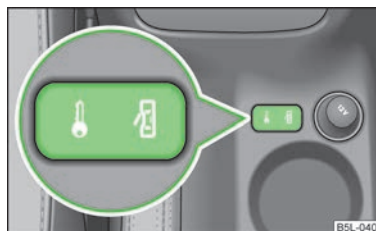

Fig. 12
If the vehicle was not locked from the outside, you can also unlock and lock it with the rocker switch » Fig. 12 without the ignition switched on.
- Press the button in the area **⏏** » Fig. 12. The symbol **⏏** in the button comes on.
- Press the button in the area **⏏** » Fig. 12. The symbol **⏏** in the button is no longer illuminated.